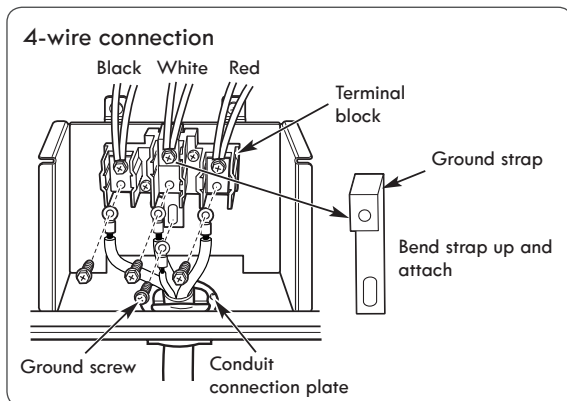

FIGURE 9
1. Remove the lower 3 screws from the terminal block and retain them. (Refer to Figure 9.)